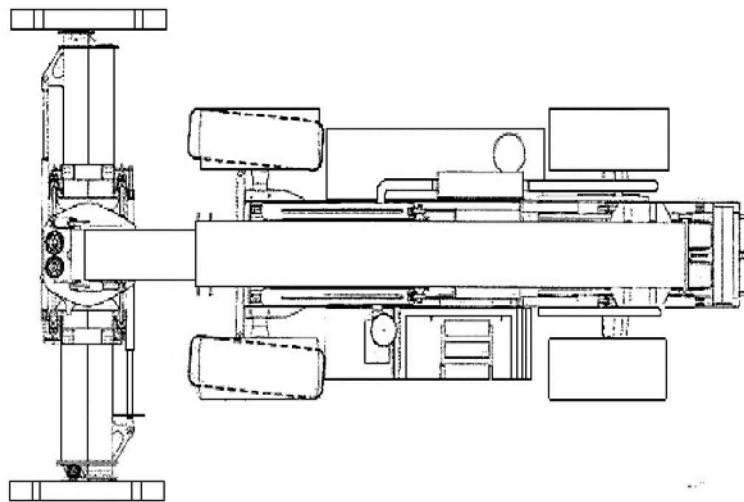

Figure 3-76
- d. Select steering mode of operation by first straightening wheels, then pressing the desired steering selection switch (see Figures 3-76, 3-77, 3-78).
- e. Move transmission control lever to desired direction, forward (F) or reverse (R), and select gear range.